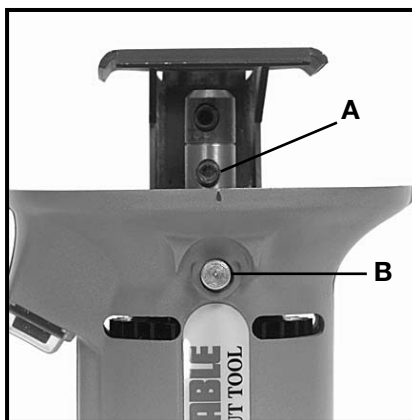

Fig. 2A
The Cutout Tool is equipped with a spindle lock which can be used to prevent spindle rotation while installing and removing bits. To engage the spindle lock: (1) Rotate the spindle shaft (by hand), to position the screw (A) Fig. 2A, approximately in-line with the spindle lock button (B), as shown, (2) Depress and hold the spindle lock button, (3) Attempt to rotate the spindle back and forth (by hand), to assure that the lock is engaged.